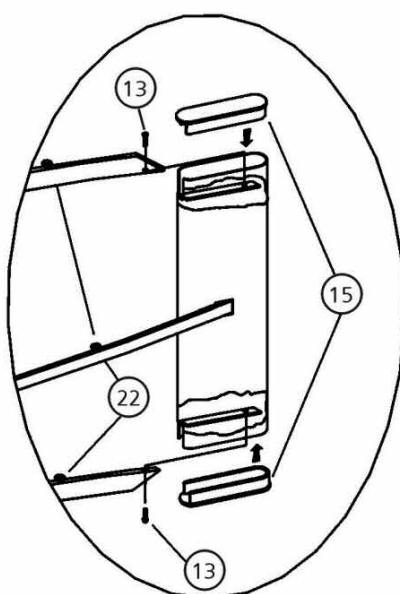

Fig. 2
A. PLACE the LOWER frame bars (1) and (2) UPSIDE DOWN on the floor so that the two holes in the bottom of the bars are facing upwards and the holes in the center of the sides of the bars are ALIGNED. NOTE THE DIRECTION OF THE SLANT AT THE BAR ENDS AS SHOWN IN FIG. 1 AND FIG. 2.
B. ALIGN one of the two flat plates (3) with the upward facing holes in the two bottom frame bars, so that the recessed screw holes in the plate is also facing upwards, and SECURE the plate and the lower frame bars together with the 1/4" x 15 mm funnel neck screws (4).
C. REPEAT this assembly procedure for the UPPER frame bars (5) and (6). NOTE THE DIRECTION OF THE SLANT AT THE BAR ENDS AS SHOWN IN FIG. 1 AND FIG. 2.
D. TURN the BOTTOM frame bars (1) and (2) over so that the flat plate (3) is sitting on the floor.
I. TO AVOID SCRATCHING THE FURNITURE, CAREFULLY PLACE the BOTTOM frame bars (1) and (2), into the open slots on the bottom of the legs with the flat plate (3) facing upwards. Make sure that the holes in the flat side of the BOTTOM frame bar are facing the REAR of the table when fully assembled. SECURE frame bars into the legs with the 1/4" x 15 mm straight neck screws (13) and the supplied Allen key tool (21).
K. PLACE plastic caps (15) onto the top and bottom of the legs as shown in Fig. 2.
M. Working from the REAR of the furniture, PLACE a washer (14) over the hole in the TOP frame bars. Using the supplied OPEN END WRENCH, SCREW the shorter threaded end of the LONG tie bar (16) through the REAR of the TOP frame bar and into the FRONT TOP frame bar until tight. REPEAT this tie bar (16) assembly for the BOTTOM frame bars.